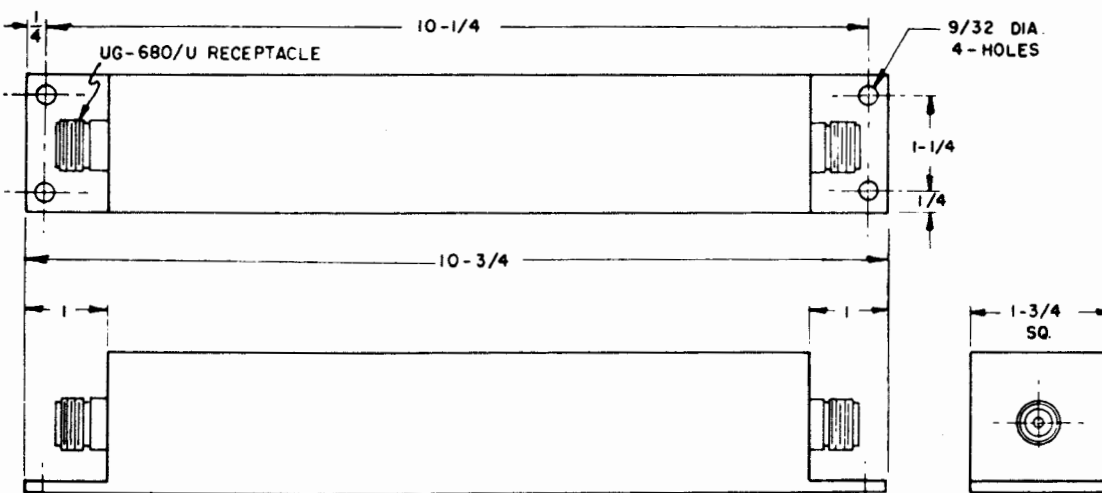

Figure 5-5 Lowpass Filter LP-101
- b. PHYSICAL CONFIGURATION. - See Figure 5-5.